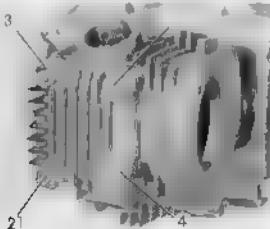

Fig. 3.39 Torquing sequence of cylinder head
4. Install the cylinder head cover and tighten the nuts diagonally and uniformly to 150~200kg·cm (14.5~18.1 lb·ft). Improper torquing will cause oil leak. (Fig. 3.39)